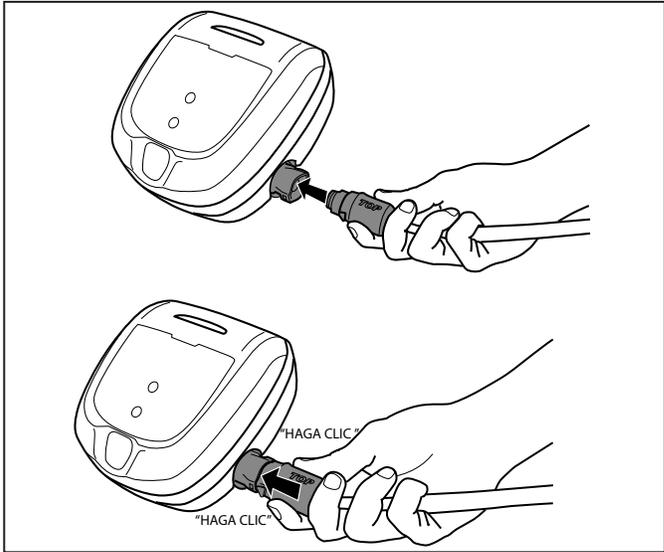

Figure 1. Connect Power Cable
- **U.S.:** Per NEC® requirements, keep the control box at least five (5) ft. (1.5 m) from the edge of the pool. **CANADA:** Per CEC requirements, keep the control box at least three (3) m (10 ft.) from the edge of the pool.
1. Firmly insert power cord connector (with TOP shown facing up) until you hear a "click" (Figure 1).